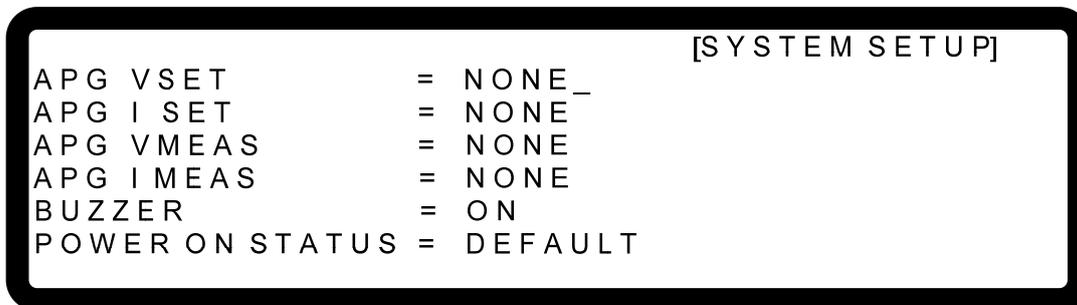

Figure 3-5
- In Config setup page, press “**1**” and “**ENTER**” will display the screen of Figure 3-5.